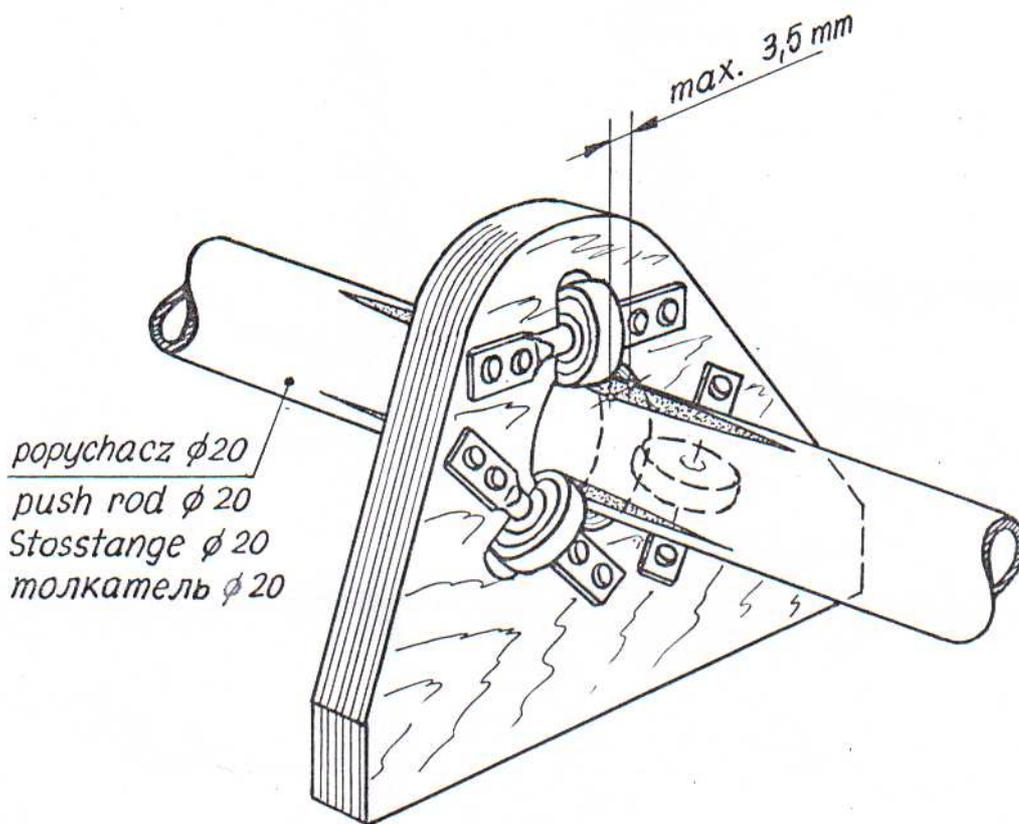

Fig.1.
- 5.1. The allowed limit width of the roller "trace" on the push-rod surface is 3,5 mm (Fig.1).